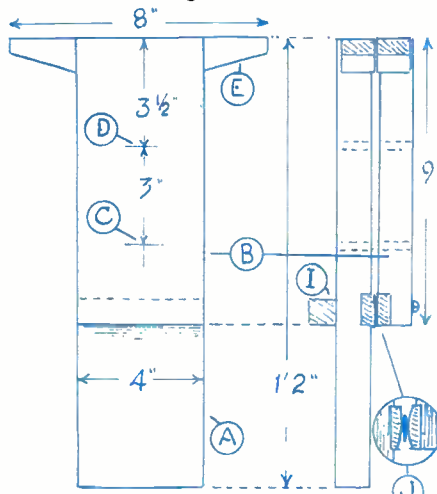

Fig. 1
A front and side view of the vice is given in Fig. 1. The body part (A) and cheek (B) are cut from 1in. thick wood, preferably of hardwood. Cut to sizes given and plane up. On part (B) run a pencil line down the centre, and mark spots (C) and (D). Place (A) and (B) together, and cramp up tightly, keeping both parts in their correct positions. With a  $\frac{1}{16}$ in. boring bit, bore holes through both, then saw out the intervening wood between them to leave a slot in which a screw bolt can move as required. Now separate the parts.
Each of the grips (E) has a  $\frac{1}{16}$ in. deep groove cut out, as at (H) and can then be screwed across in position. At the bottom end of (B) a rebate  $\frac{1}{16}$ in. deep is cut, into which a 4in. piece of  $\frac{1}{16}$ in. by 1in. hardwood is screwed and glued. On body part (A) where shown in Fig. 1, a groove of the same dimensions as the rebate is also cut and a second piece of  $\frac{1}{16}$ in. by 1in. wood glued in. The side view (G) Fig. 2, shows both these in place at top and bottom of the cheek of the vice. The side view of both body and cheek in Fig. 1 will make this part of the work quite clear.
At the back of the vice a strip of wood is screwed across at (I) in Fig. 1. This rests upon the table when the vice is fixed to it, and prevents side movement. The vice cheek (B) is now fitted to the body part by two round-headed screws, these being driven in at the lower end, and penetrating the hardwood strips fixed there. The meeting face sides of these latter parts are very slightly curved, and brass washers sandwiched between them through which the screw will enter. These details are shown enlarged at (J).